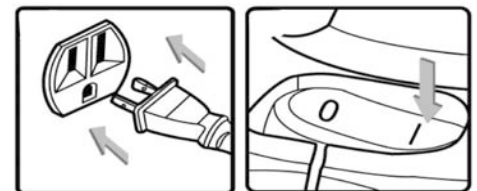

FIGURE 12
- 7) Start the vacuum by pushing the On/Off switch to the On position as shown in Fig.12. The On position is indicated by the international symbol "I" on the switch.